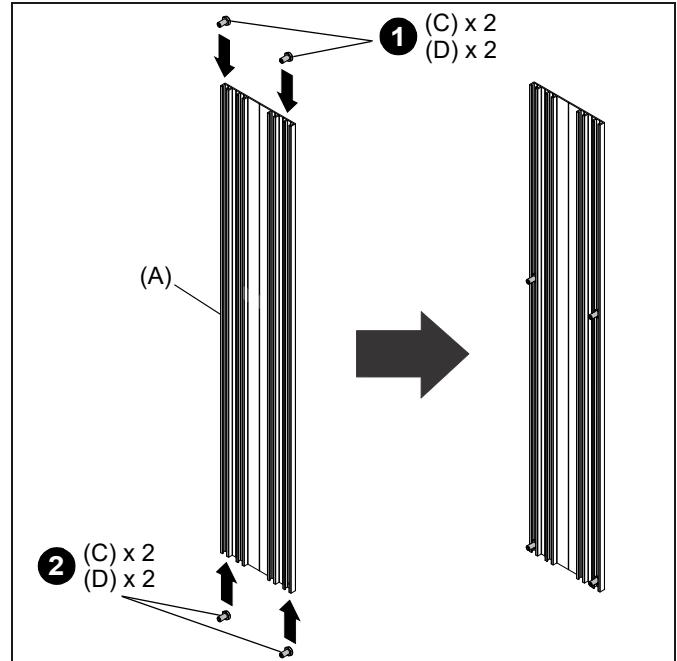

Figure 11
1. Slide two assembled M8 x 20mm screws (C) and M8 nuts (D) down into the outside channels of the upright extrusion (A) from the top end. (See Figure 11)
2. Slide two assembled M8 x 20mm screws (C) and M8 nuts (D) up into the outside channels of the upright extrusion (A) from the bottom end. (See Figure 11)